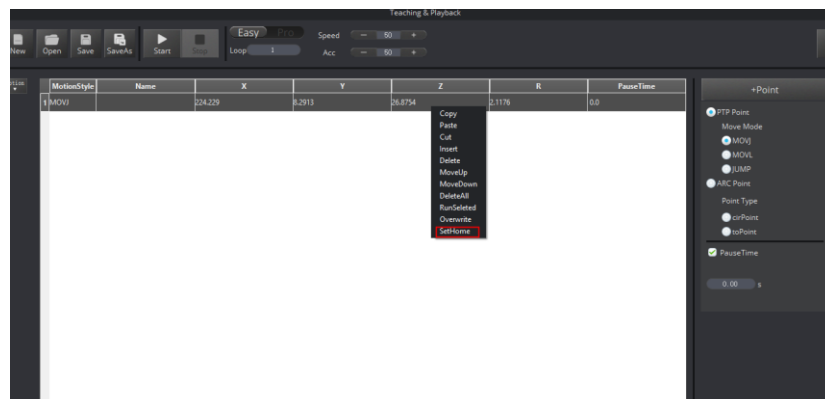

Figure 5.141 Set homing position
3. Select this point and right-click **SetHome**, as shown in Figure 5.141.